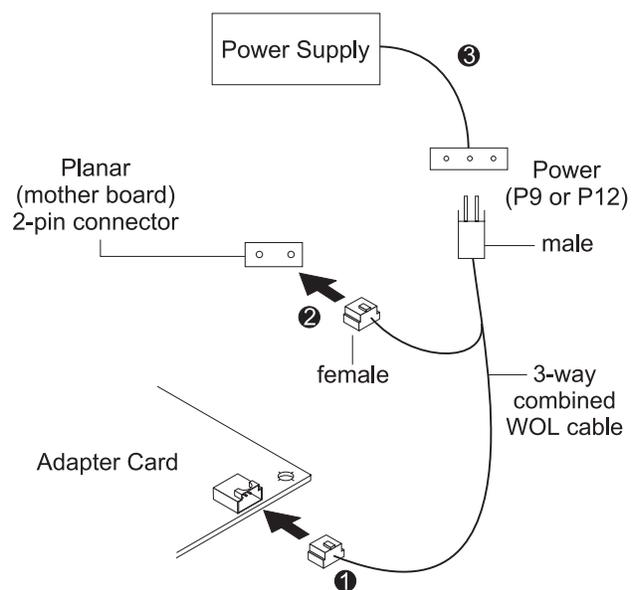

Figure 2-4. Connecting the Signal and Power Cables to Your PC
- A 3-way combined Wake on LAN signal and power cable (IBM PN 08L2558) as shown in Figure 2-4 on page 2-6, to be used between the adapter and PC model that has separate signal and power connectors for Wake on LAN. On this cable, the end that has a single female connector is for the adapter connection. The other end, with one male connector and one female connector, is for the PC connection.
| adapter, as shown in Figure 2-4 on page 2-6.